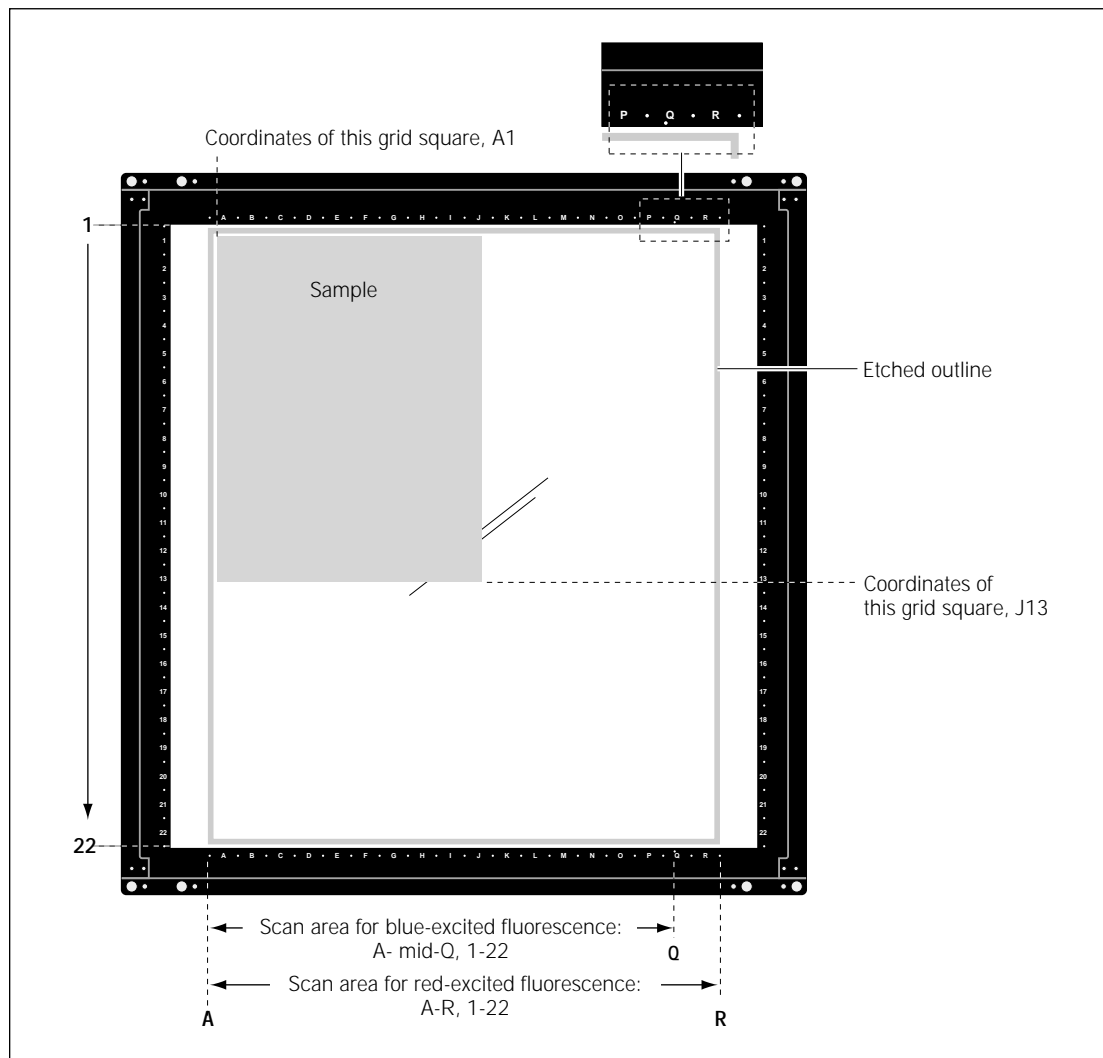

Figure 8-2. Sample placement on the glass platen of the Storm instrument.
Use the following guidelines and figure 8-2 to determine where on the glass platen to place the sample:
- **Blue-excited fluorescence**—Within the etched outline on the glass platen and, on the right side, to the extra dot in section Q of the image area grid (figure 8-2). The narrow segment (approximately 3 cm) to the right of the extra dot in section Q is not scanned by the Storm 860 and 840 in the chemifluorescence/blue-excited fluorescence mode.
4. Make a note of the coordinates of the **upper left** and **lower right** corners of the area you want to scan (figure 8-2). You will use this information later in the Scanner Control window (section 9.1.3).
5. Make a note of the coordinates of the **upper left** and **lower right** corners of the area you want to scan (figure 8-2). You will use this information later in the Scanner Control window (section 9.1.3).